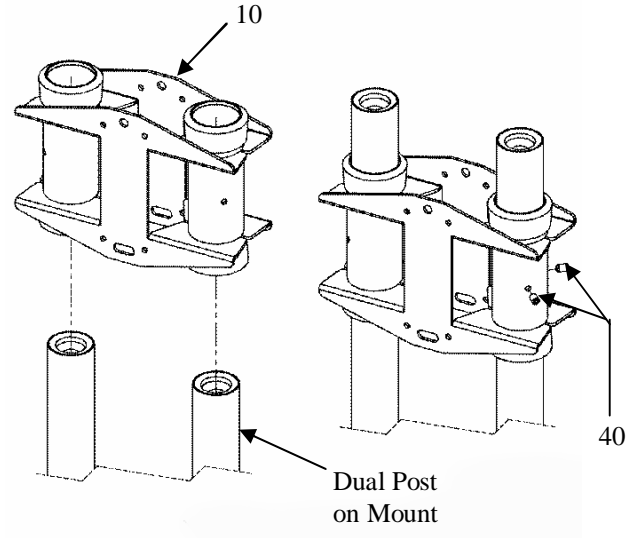

Figure 4. Mount Single Head on Dual Post
1. Place the single head (10) over the dual post on the mount as shown in Figure 4.
2. Adjust the single head (10) to the desired height on the mount.
3. Tighten the four 5/16-18 hex head set screws (40).